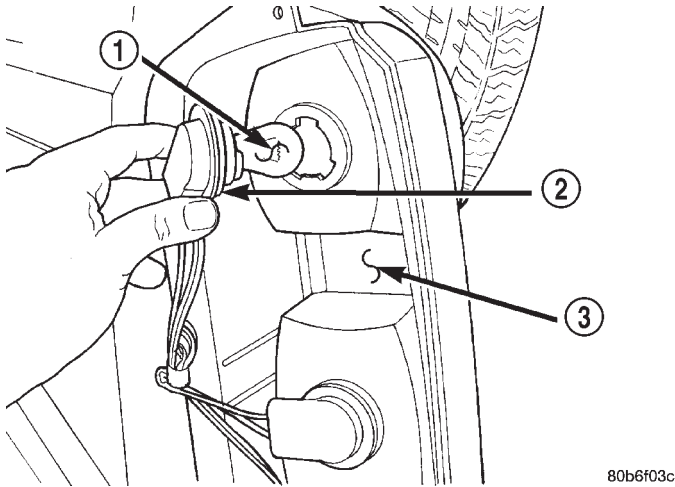

Fig. 32 Bulb Socket Removal
- (2) Remove the screws that secure the tail lamp unit to the quarter panel.
- (3) Remove the tail lamp unit from the quarter panel.
- (4) Rotate the tail lamp bulb socket counterclockwise and remove the socket from the tail lamp housing (Fig. 32).
- (5) Pull the bulb out of the socket.